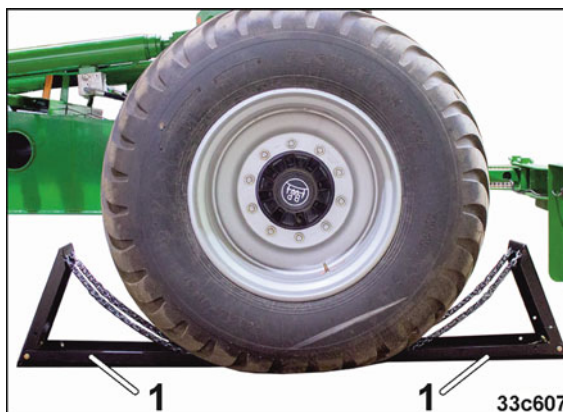

Fig. 154
10. Secure the implement with two wheel chocks (Fig. 154/1).